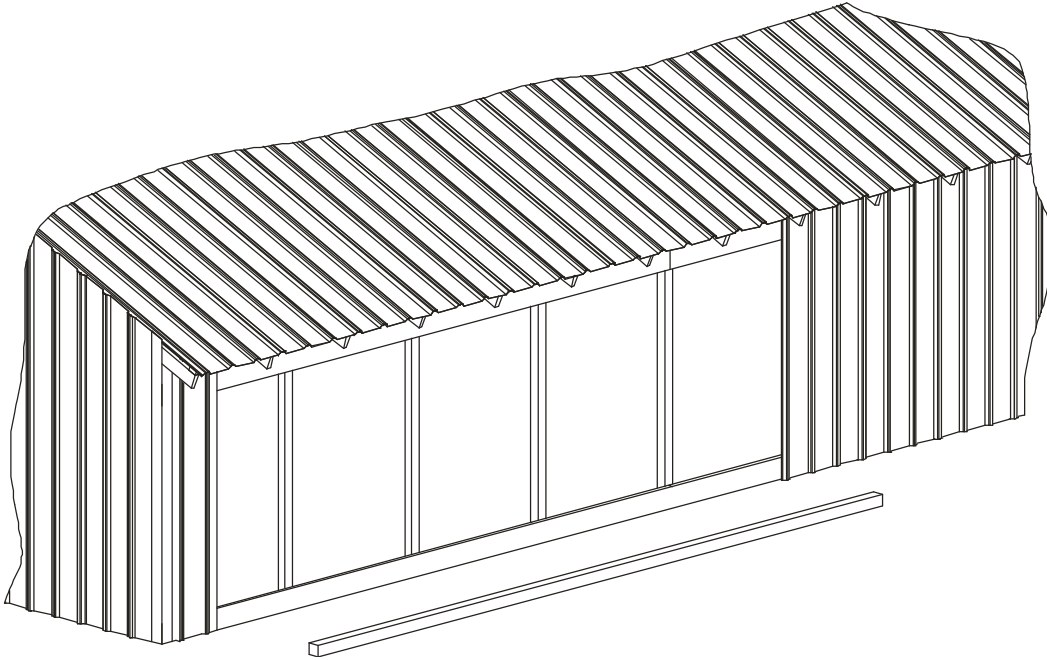

Figure 3
3. Pour a concrete footing to accommodate the base of the vertical legs. The footing should be capable of supporting 25 pounds per foot plus 4.11 pounds per square foot of pad. See Figures 3 and 4.